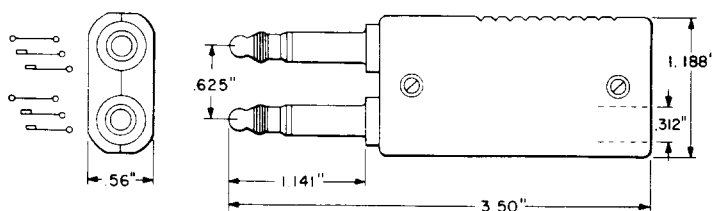

Fig. 1—425A-Type Plug
2.01 425A-Type: The 425A-type (Fig. 1) are twin, 3-conductor plugs generally connected to a single, 6-conductor cord. The shells are available in colors as listed in Table A. The 425A-type plugs are designed to be used with the 238-, 239-, or similar-type jacks and are used on the G10C hand set in the AUTOVON System.